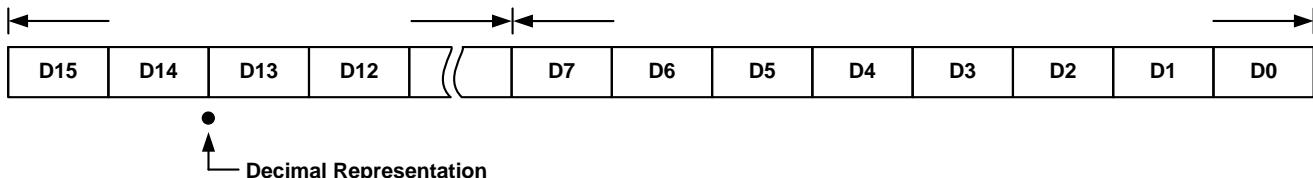

Figure 27. Binary Representation Of Gain Correction Factor
- LUT Data Entry:** Each GCF needs to be converted from decimal to a 16 bit binary word representing a decimal number between 0 and 4. An example illustrating this binary representation of the decimal number is shown in Figure 27. The conversion equation that scales the GCF into the 16 bit binary $\text{GCF}_{\text{BINARY}}$ is shown in Equation 2. Once the conversion has been calculated for each temperature the values are programmed
into the appropriate registers in the LUT. The MSB of the LUT value consists of bits D15 to D8 as shown in Figure 27, the LSB are bits D7 to D0.